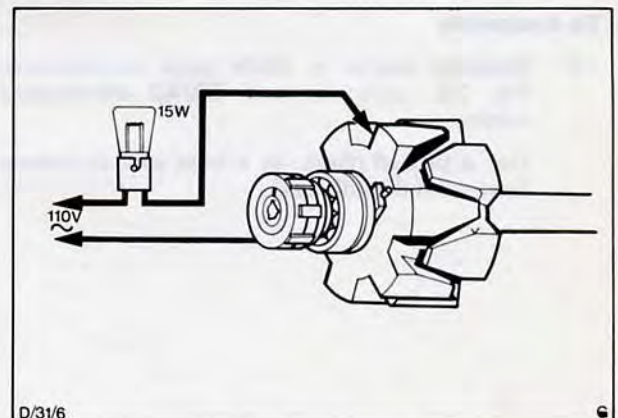

Fig. 22. Rotor winding insulation check
- Rotor winding insulation, Fig. 22.